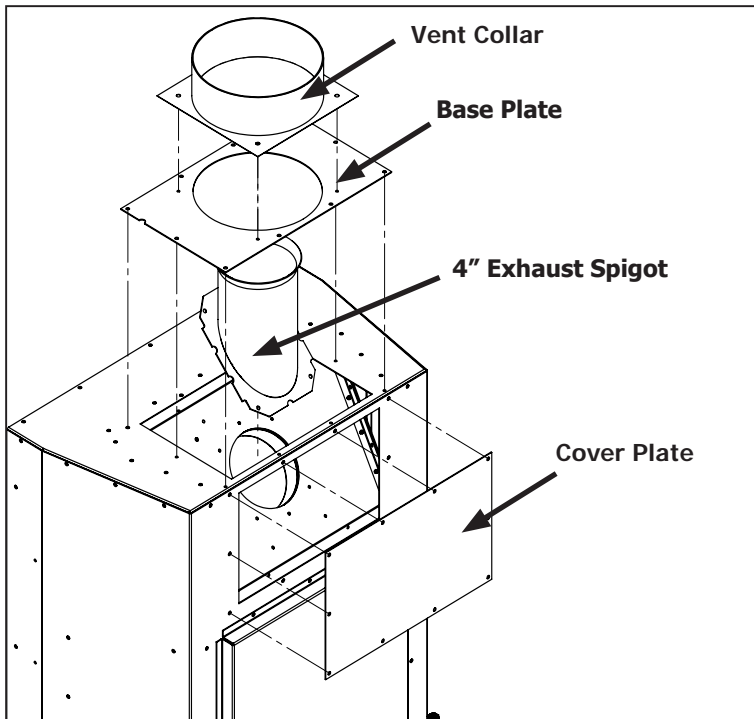

Figure 44: Removal of Co-Axial Venting
Step 1: Using a T20 screwdriver remove the vent collar, base plate, cover plate and 4" exhaust spigot (28 screws total) as shown in Figure 44. The vent collar, base plate, and 4" exhaust spigot will no longer be used.